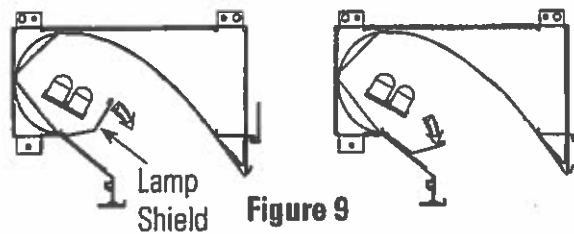

Figure 9
2. Reach into the fixture and pull the top of the lamp shield downward and towards the wall. (Fig. 9)